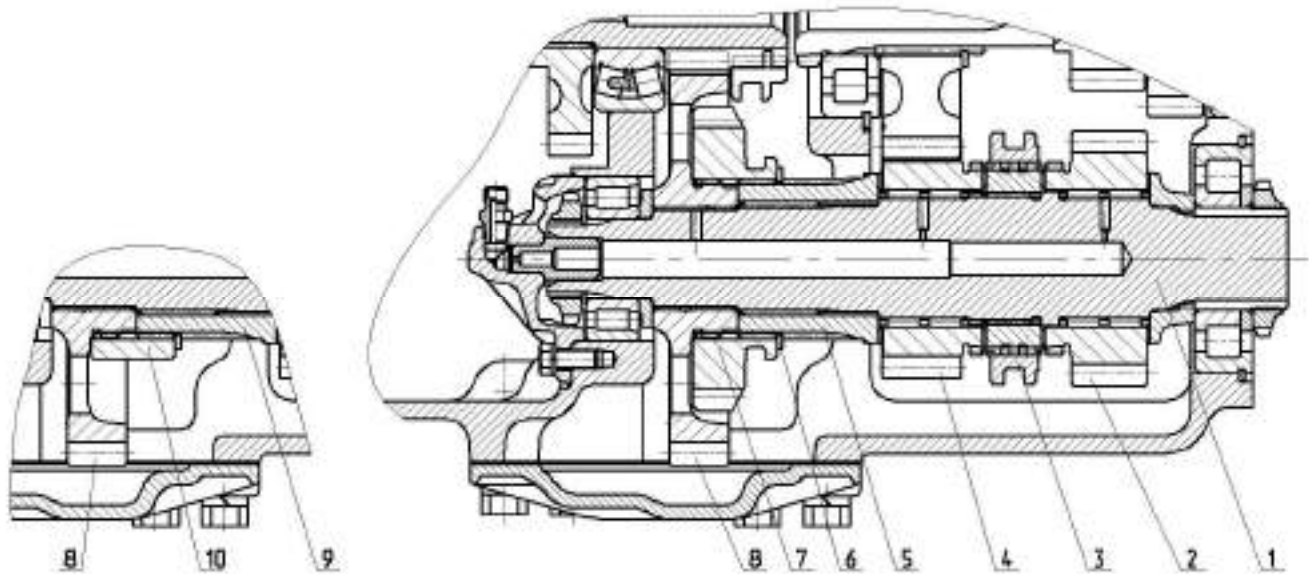
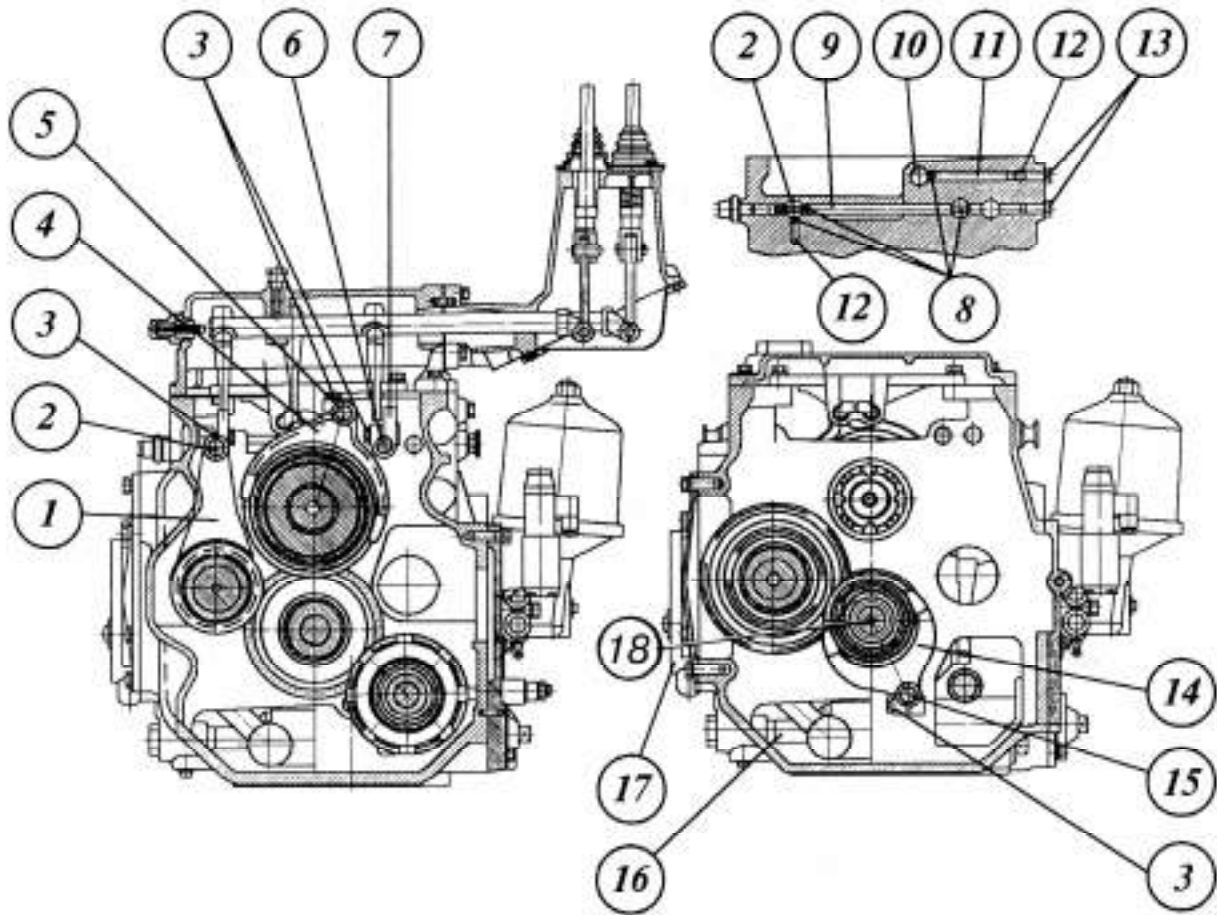

Fig. E-12.2. Shaft of downshift gears:
Fig.E-14. Gearbox:
The gear (4) of the 1st and 2nd ranges and the gear (2) of the reverse are fitted on the shaft of downshift gears and reverse (1) (Fig. E-12.2). The gear (8) is mounted on the shaft by means of a bronze bushing. Depending on the standard equipment of the gearbox, the design of the shaft of downshift gears differs as follows:
- 1) if the gearbox provides for the possibility of installation of the speed-reduction gear, the splined bushing (5) is fitted with the speed-reduction gear wheel (7) connected with the splines of the gear (8) and fixed by means of the retaining ring (6) on the bushing (5);
- 2) if the gearbox does not provide for the possibility of installation of the speed-reduction gear, the splined bushing (9) is fitted with the bushing (10) connected with the gear (8) through the splines and fixed by means of the retaining ring (6) on the bushing (9).
The toothed couplings (13, 26) (Fig. E-12.1) and (3) (Fig. E-12.2) are moved by forks (1, 4, 14) (Fig. E-14) attached on the dogs (2, 5, 15), respectively. The toothed couplings (13, 26) (Fig. E-12.1) and (3) (Fig. E-12.2) are fixed in neutral and engaged positions by the parts (8, 11, 12) (Fig. E-14).
To exclude simultaneous engagement of the two toothed couplings (26) (Fig. E-12.1) and (3) (Fig. E-12.2) the locking
balls (8) (Fig. E-14) are installed in holes in the GB casing (Fig. E-14).